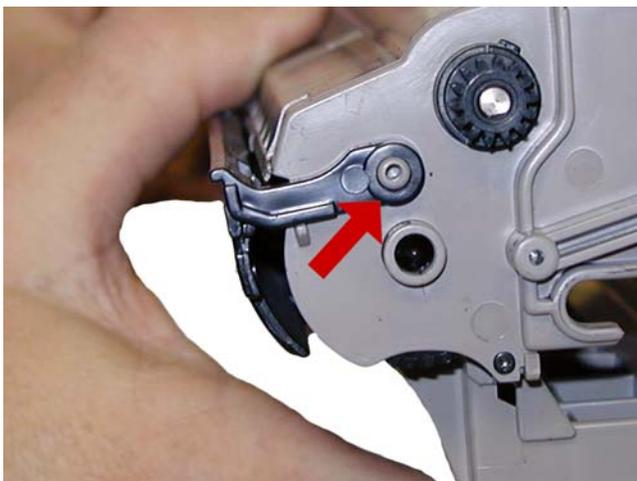

Figure 40
34) Install the opposite side of the drum cover. See **Figure 40** The drum cartridge is finished!